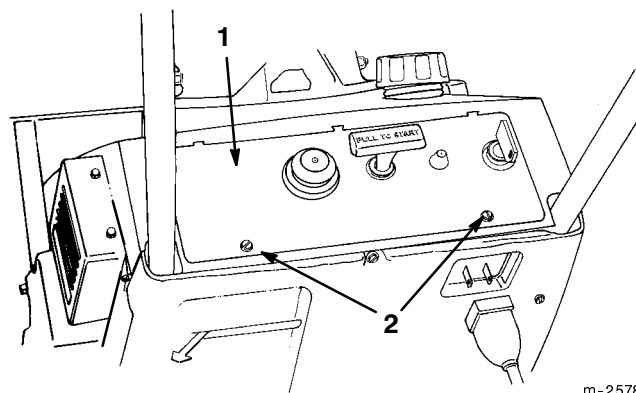

Figure 16
2. Remove the two screws that secure the control panel to the housing (Fig. 16).
3. Remove the two screws that secure the control panel to the housing (Fig. 16).